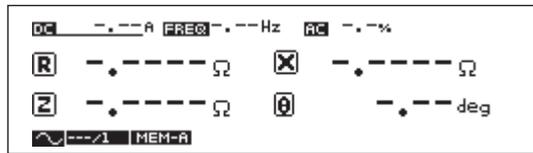

Fig. 4-4 PLZ-4W Series model configuration retrieval error
- Be sure to turn on the PLZ-4W Series first or simultaneously with the KFM2150. If you turn the KFM2150 on first, a response error or error shown in Fig. 4-4 will occur. If an error occurs, turn off the power switches of the KFM2150 and PLZ-4W Series, and carry out the power-up procedure in the correct order.